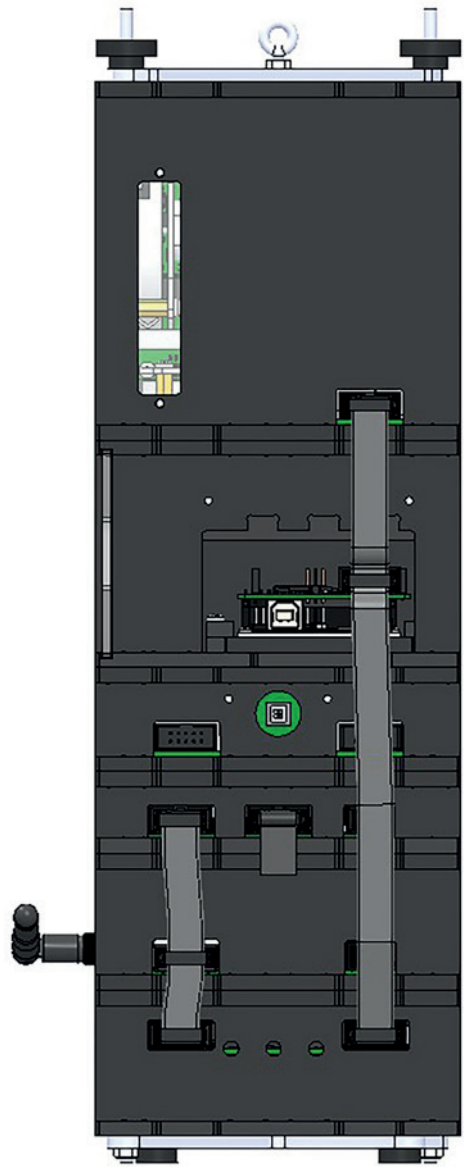

Fig. 108: Ribbon cable connection
4) Connect modules to each other with ribbon cables and connect a terminator (Fig. 108):